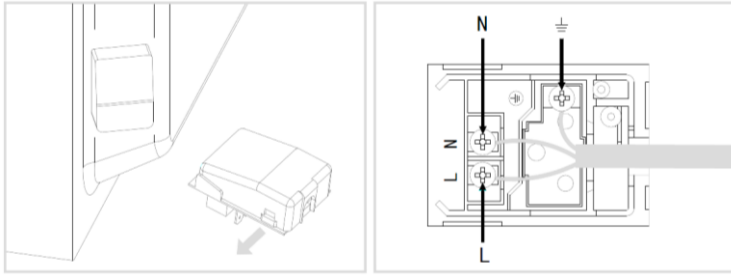

Fig.8
1. Open the terminal board by inserting a screwdriver into the side tabs of the cover. Use the screwdriver as a lever by pushing it down to open the cover (Fig.8).
2. Install the power supply cable by loosening the cable clamp screw and the three wire contact screws LNConnect the wires to the corresponding terminals: the Blue wire to the terminal marked (N), the Brown wire to the terminal marked (L) and the Yellow/Green wire to the terminal marked (Fig.8).